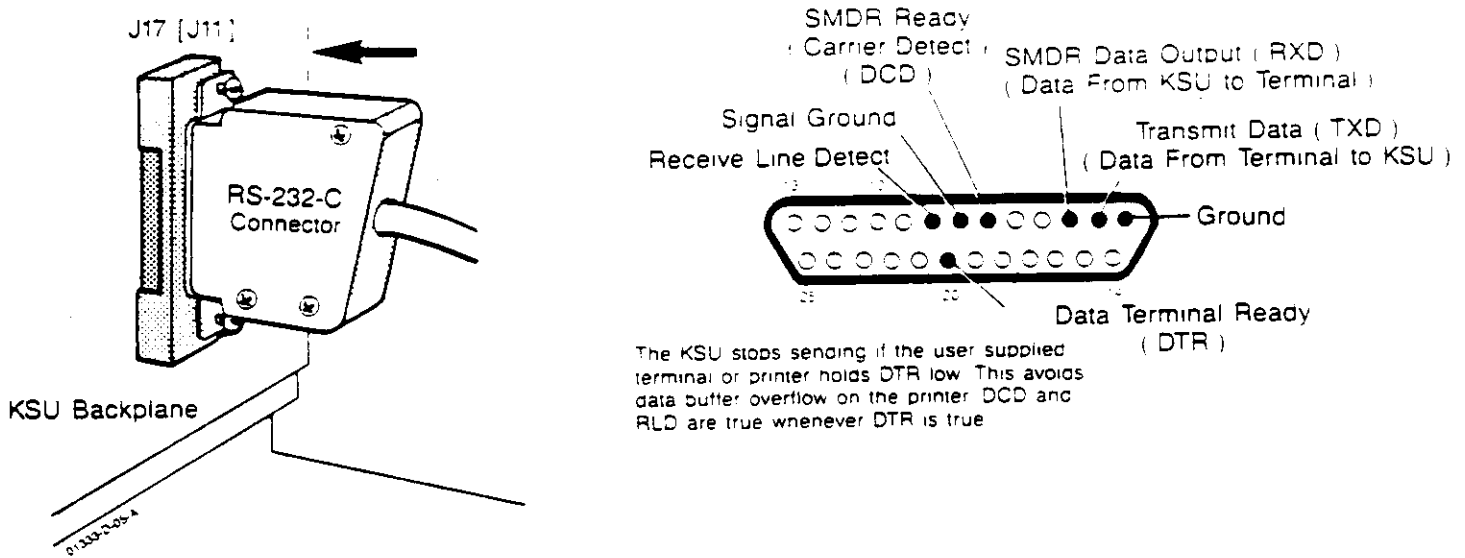
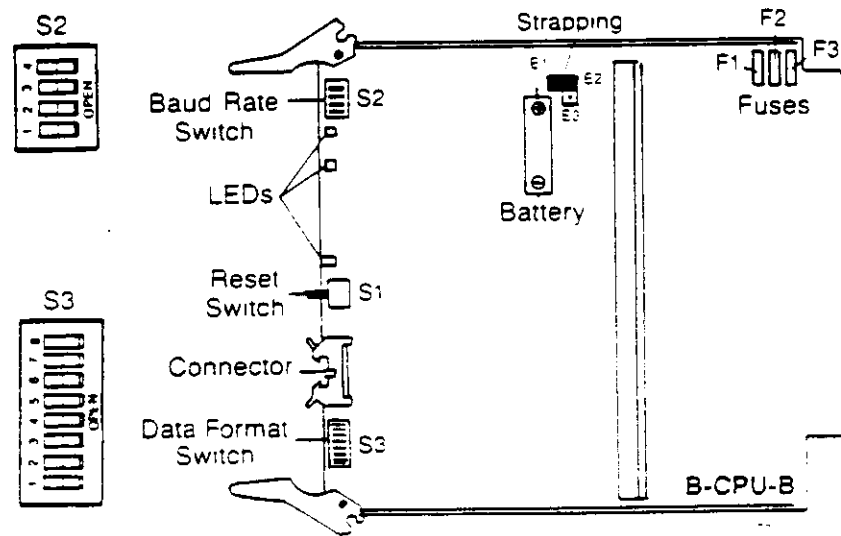

Figure 6-1 RS-232-C INTERFACE CONNECTOR AND PIN ASSIGNMENT, EK-824/1232/1648
Figure 6-2 BAUD RATE AND SERIAL DATA SWITCH ON B-CPU-B, EK-824/1232/1648
3.06 The SMDR printer is connected to the KSU backplane with an RS-232-C Interface Connector (Figure 6-1). The baud rate (S2) switch (Figure 6-2) on the B-CPU-B PCB must be set to match the rate of the programming terminal.